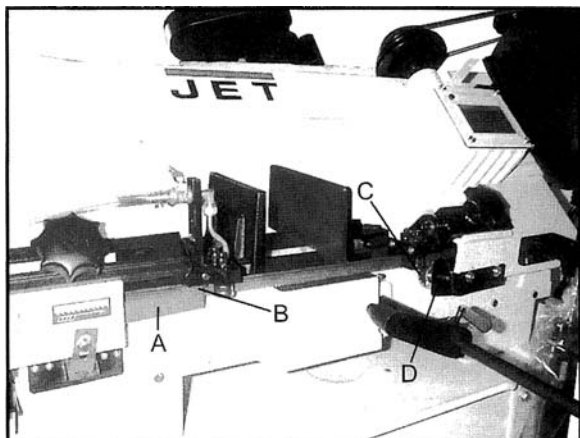

Figure 15
3. Remove red blade guard assembly (A, Figure 15) by removing two screws (B, Figure 15).
4. Remove brush assembly (C, Figure 15) by removing two screws (D, Figure 15).